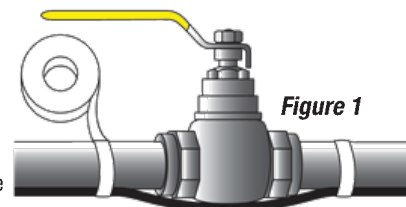
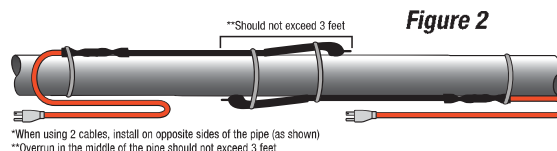

Figure 1
Figure 2
- **For pipe with a standard length of heating cable:** Apply the cable straight along the bottom of the horizontal pipe or weather exposed side of vertical pipe following installation instructions. (See Figure 1)
- **For pipe diameters from 3/8"-3/4":** Apply the cable straight along the bottom of the horizontal pipe or weather exposed side of vertical pipe. Apply good quality electrical tape at 6" intervals to secure the heating cable. (See Figure 1) **Cable can be up to 2 ft. shorter than the length of pipe.** If 2 cables are required apply 2 separate cables on opposite sides of the pipe, starting from opposite ends following the installation instructions. (See Figure 2) **The overrun in the middle of the pipe should not exceed 3 feet.**
- **For pipe diameters from 1" - 1 1/2":** Apply the cable straight along the bottom of the horizontal pipe or weather exposed side of vertical pipe. Apply good quality electrical tape at 6" intervals to secure the heating cable. (See Figure 1) If 2 cables are required apply two separate cables on opposite sides of the pipe, starting from opposite ends following installation instructions. (See Figure 2) **The overrun in the middle of the pipe should not exceed 3 feet.**